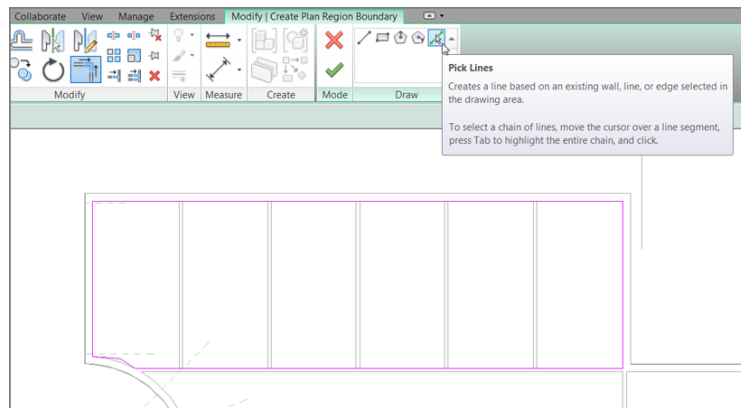

FIGURE 9.13: Defining the limits of the plan region by drawing a rectangle around a specific area
4. Pick the inside, finished face of the exterior walls around the north portion of the west wing (see Figure 9.13).
5. For the lower-left corner, draw a couple of straight lines, as shown in Figure 9.13, and trim them up if they do not intersect. (Unfortunately you can't have radial perimeter lines in a plan region.)